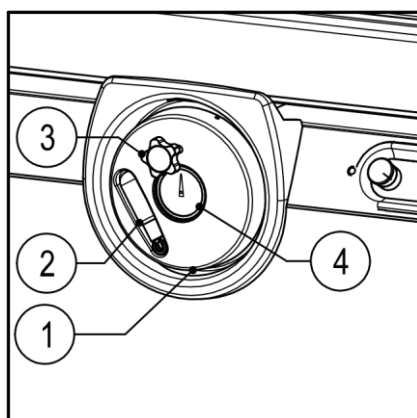

Fig.12A
M500 (Fig.12A-B)
The height adjustment of the scoring saw is done with the adjusting knob (5). (fig 12A)
Lock the setting with the serrated nut (4). (fig 12A)